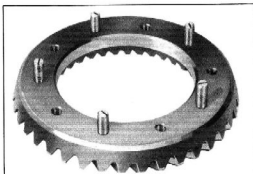

Fig. 10—Use of Guide Pins in Ring Gear
3. When replacing the ring gear, it is good practice to use five guide pins made by cutting the heads from $\frac{3}{8}$ " 24 cap screws about $1\frac{1}{2}$ " long. Slots should be cut in the heads of these guide pins so that they may be easily removed with a screwdriver. Install these guide pins in alternate bolt holes in the ring gear, Fig. 10, and slip the ring gear over the pilot diameter of the case, making sure that the back face of the ring gear and the face of the case are free from dirt and burrs. Install every other ring gear bolt and draw them up evenly and snugly so that the ring gear face is flush with the face of the case. Remove the guide pins and install the remaining bolts.